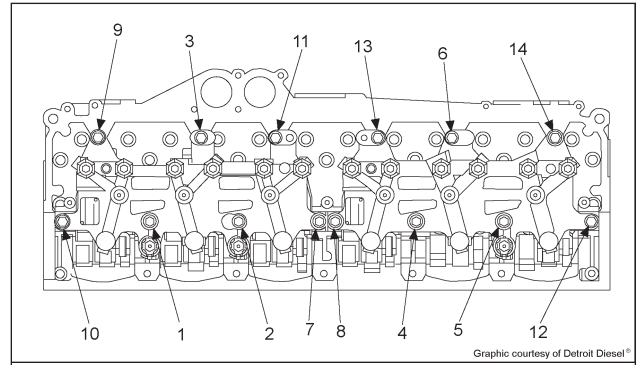

Fig 14
6. Torque down brake housing per sequence in Fig. 14 at 80 lb.-ft. (108 N-m).